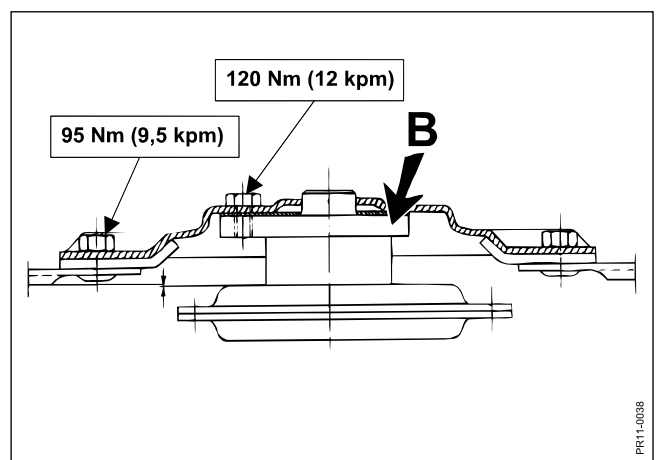

Fig. 5-12
- Fig. 5-12** Make sure that the bolts have been tightened as shown.